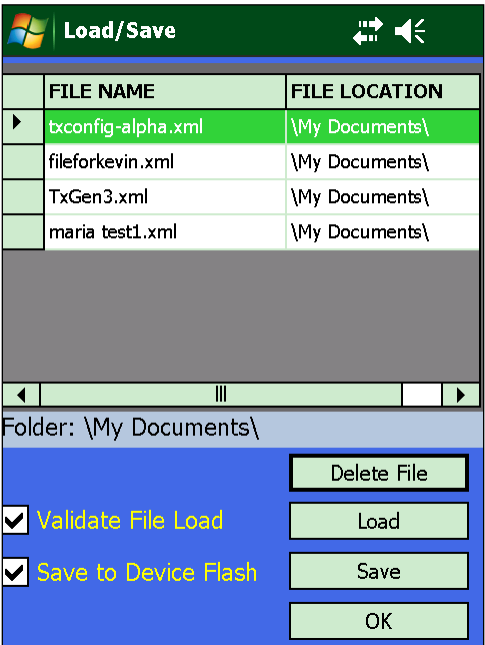

Figure 28: Load/Save--Minus Deleted File
5. Tap Yes to continue deleting the preset. The Load/Save screen redisplay without the deleted file, as shown in Figure 28.